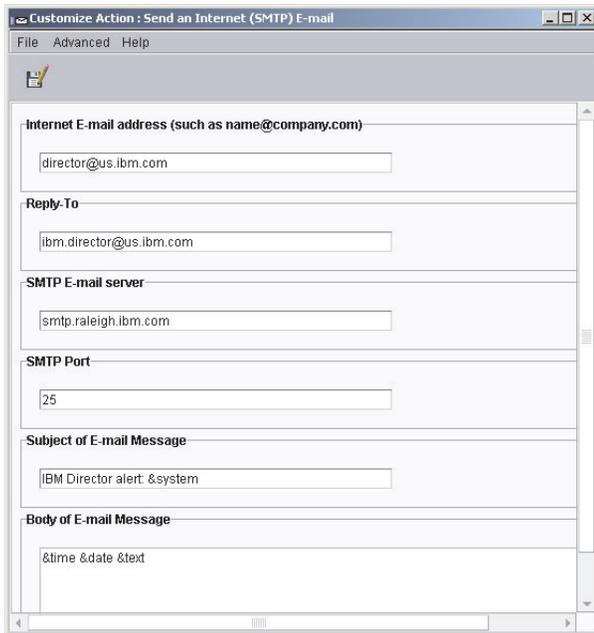

Figure 7. “Customize Action” window displaying example values
2. Complete the fields. See Figure 7 on page 44 for example values.